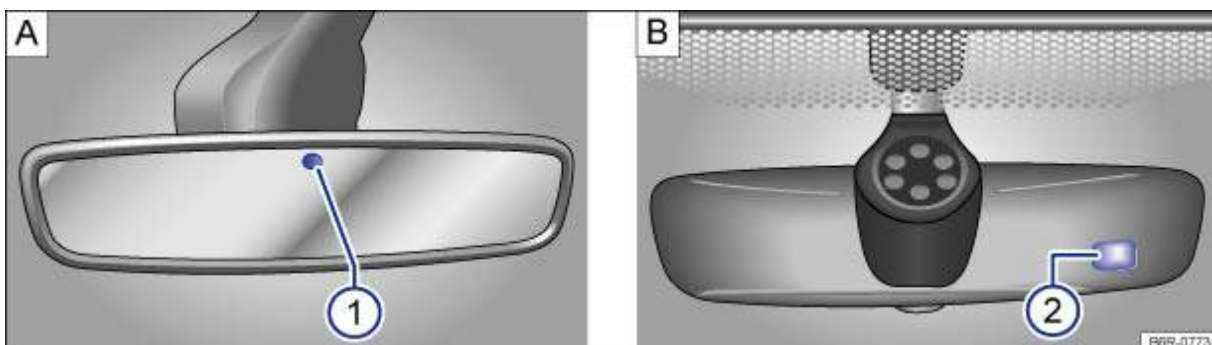

Fig. 82 Automatic anti-dazzle interior mirror
Key to → Fig. 82:
- One sensor on the side facing the interior to measure light incidence from *the rear* → Fig. 82 ① **A**.
- One sensor on the side facing the windscreen to measure light incidence from *the front* → Fig. 82 ② **B**.